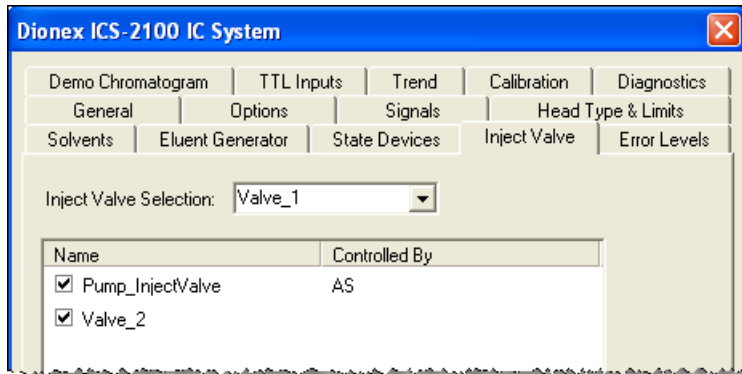

Figure 21. Inject Valve Properties: Inject Valve Controlled by the AS
- If the timebase will include an AS or AS-DV, the **Controlled By** setting for **Pump_InjectValve** must be **AS** (see Figure 21).